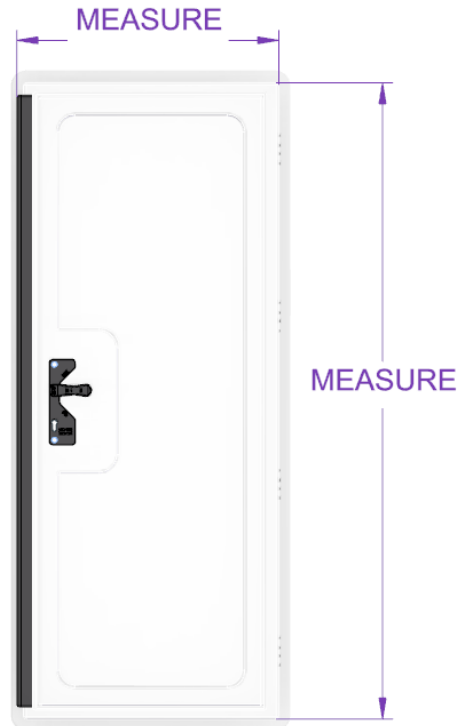

Figure 1: Inside Door Measurement
- 8.2. Using a tape measure, measure the GRP frame to determine the size of the cut you will need to make from the outside of your panel. The measurements required is shown in Figure 1.
- 9.2. Using a vibrant Marker Pen and a straight edge, mark on the panel the measurements taken from point 8.2. (Figure 1) in the desired location on the panel.